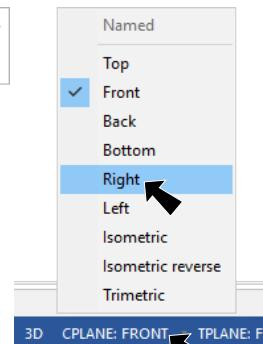

Fig. 28
Step 14. Change **CPlane to Right**. Click **CPLANE** in Status bar at bottom of the graphics window and click **Right** from the menu, Fig 28.